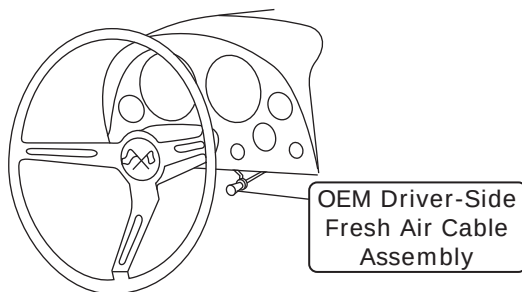

Figure 1
2. Relocate OEM driver-side fresh air cable assembly to the OEM passenger-side mounting location (See Figure 1, below).